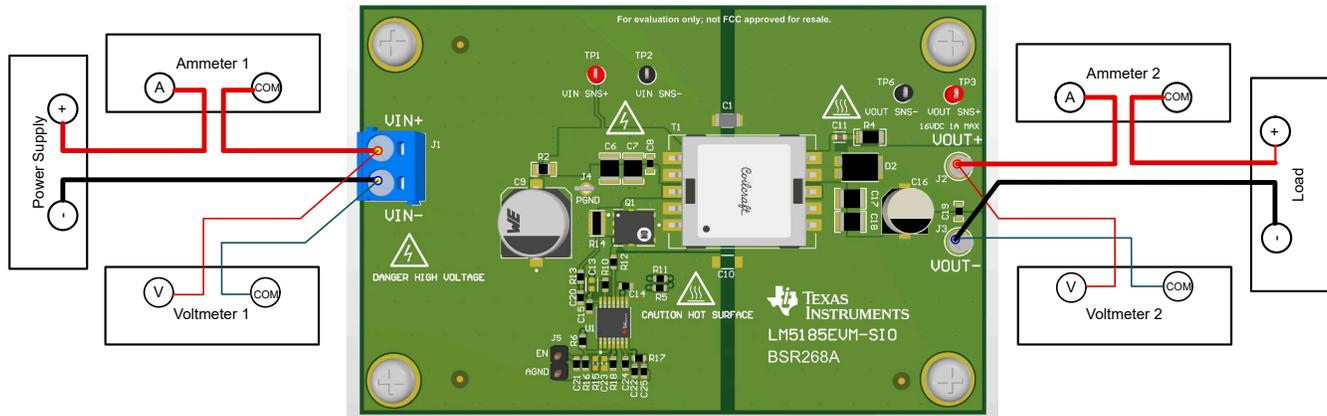

Figure 2-1. EVM Test Setup
Figure 2-1 shows the diagram of EVM bench test setup. Refer to Section 2.2 and Section 2.3 in this user's guide for detailed information of headers, jumpers and test points. Refer to Section 2.4 for the setup assembly and test procedure. Refer to Section 2.5 for the important notice on safety concerns when handling the EVM.
- Prior to connecting the DC input source, set the current limit of the input supply to 100 mA maximum. Verify the input source is initially set to 0 V and connected to the VIN+ and VIN– connection points, as shown in Figure 2-1. An additional input bulk capacitor is recommended to provide damping if long input lines are used.
- Connect electronic load to VOUT+ and VOUT- connection points as shown in Figure 2-1. Set the load to constant-resistance mode or constant-current mode at 0 A before applying input voltage.